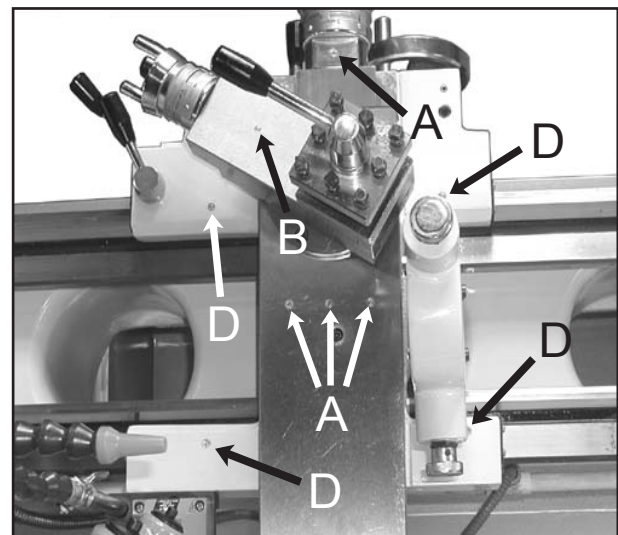

Fig. 8
5. Cross Slide - lubricate four ball oilers (A, Fig. 8) with Mobil DTE® Oil Heavy Medium once daily.
6. Compound Rest - lubricate one ball oiler (B, Fig. 8) with Mobil DTE® Oil Heavy Medium once daily.
7. Carriage - lubricate four ball oilers (D, Fig. 8) with Mobil DTE® Oil Heavy Medium once daily.